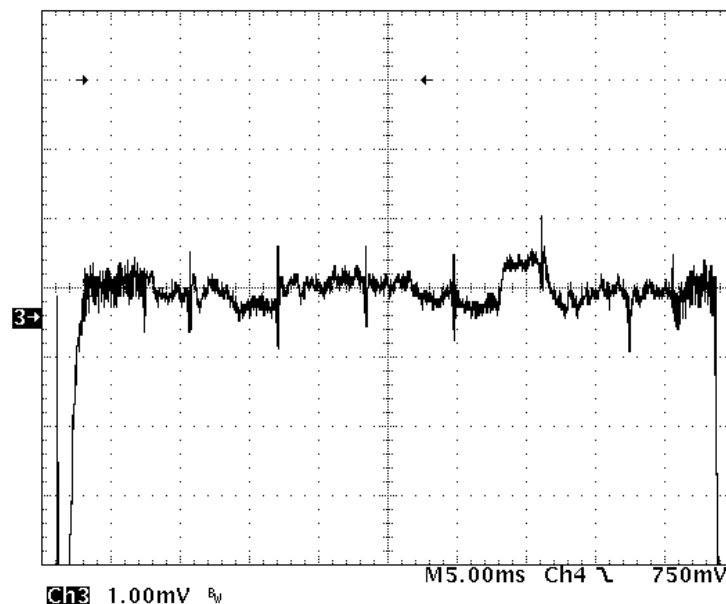

Figure 4–1: Properly adjusted frequency response
7. Check that the portions between markers are flat (within 3.5 mV of the .1 MHz packet). See Figures 4–1 and 4–2.